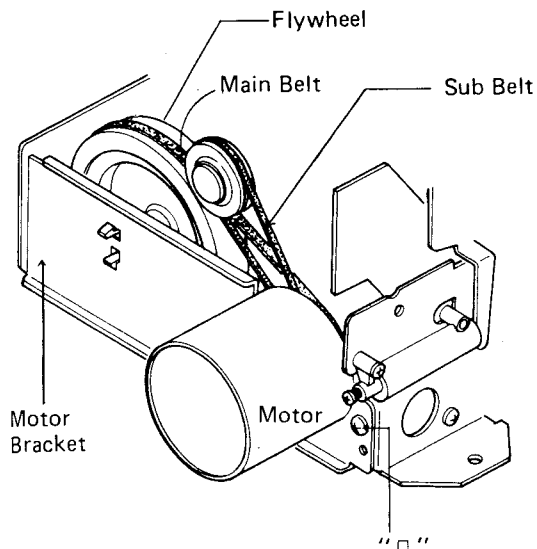
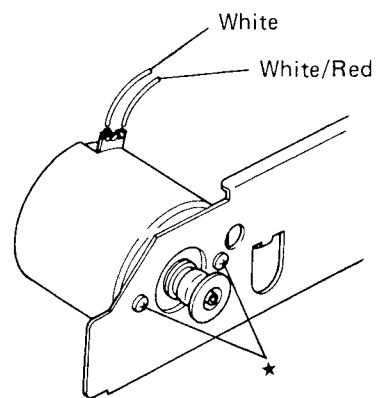

Figure 11
Figure 12
- (1) Remove a screw marked "□" and the motor bracket, and two belts can be removed as shown in Figure 11.
- (1) Remove a screw marked "□" as shown in Figure 11 and two screws marked "☆" and two wires (white, white/red) from terminal P.C. Board as shown in Figure 12, and the motor can be removed.
- (2) After finishing assembling, confirm tape speed and wow/flutter with test tape (MTT-111).